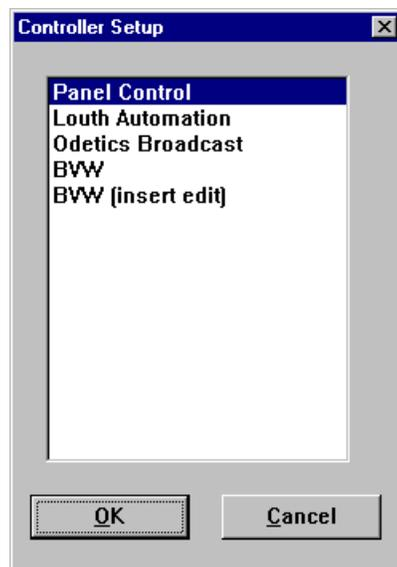

Figure 72. Controller Setup dialog box
2. Choose **Controller | Select** to open the Controller Setup dialog box (Figure 72).